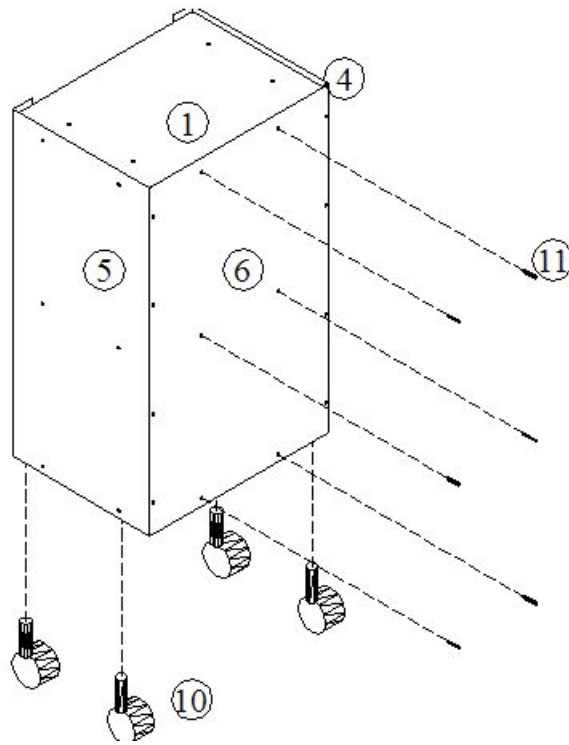

Figure 7
Adjust the casters to the pedestal (10) by turning them clockwise to reduce their height and counter clockwise to increase the height. These adjustable feet will compensate for any irregularities in the surface you are putting it on. As shown in Figure 7.